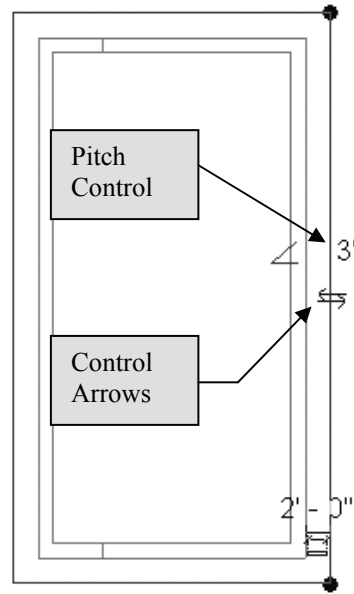

Figure 7-1.9 Selected walls
34. Select the remaining three walls (Figure 7-1.9).
FYI: You can also change the pitch of the roof by changing the *Pitch Control* text; just select the text and type a new number (Figure 7-1.9).